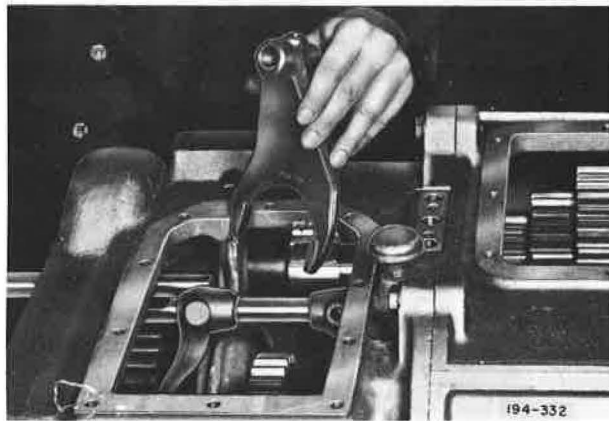

Figure 5-207. Installing Second and Third Speed Shifter Fork
23. Start second and third speed shifter rail through hole provided in rear of case. Engage second and third speed fork with second and third speed sliding clutch, see Figure 5-207. Advance rail through hub of fork and intermediate bore of case.